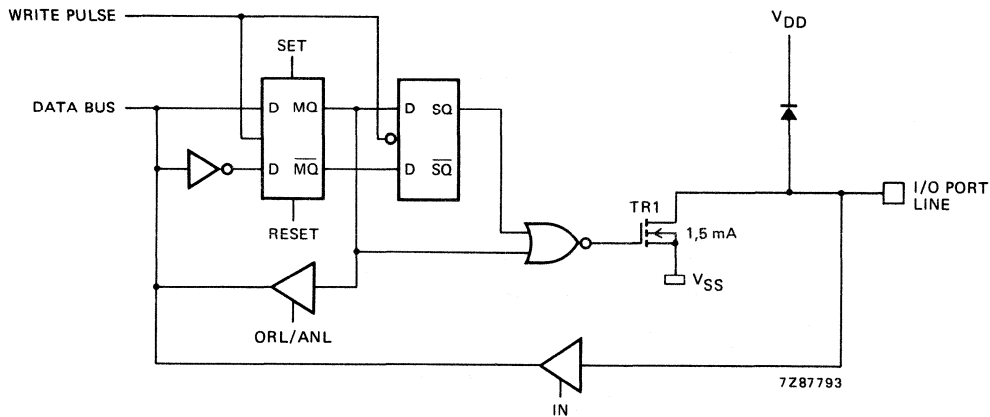

Fig. 12 Open drain output.
- Option 2- OPEN DRAIN; quasi-bidirectional I/O with only an N-channel open drain output. Application as an output requires connection of an external pull-up resistor (Fig. 12). When an open drain port is unused it must be connected to V_{SS} .